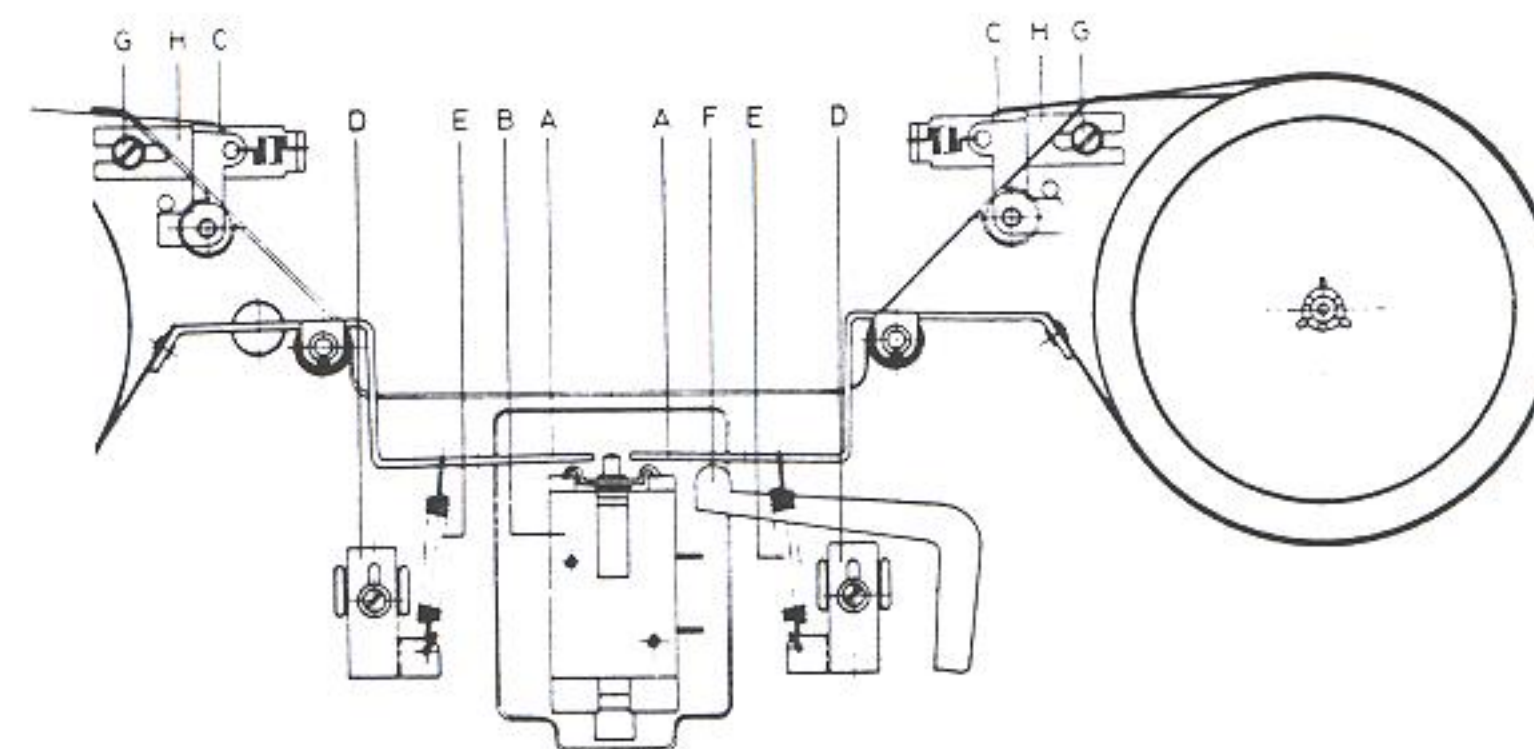

Fig. 2
6. Adjustment of the tape brakes (see figure 2)